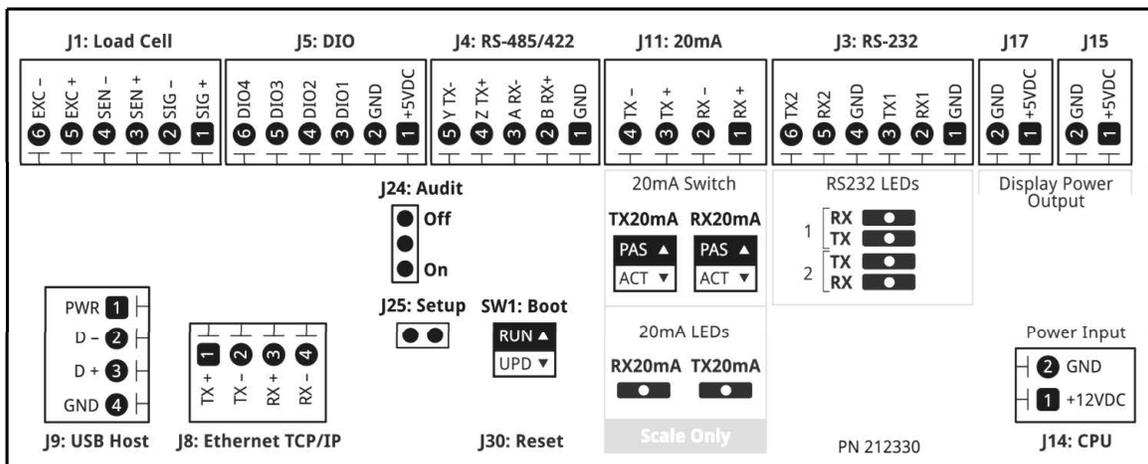

Figure 1. CPU Board Informational Label (PN 212330)
4. Connect cable to one of the following communication ports RS-232 (J3), RS-482/422 (J4), Ethernet (J8) or 20 mA (J11), while adhering to port pin assignment (Figure 1). Coordinate software settings with the installed wiring.